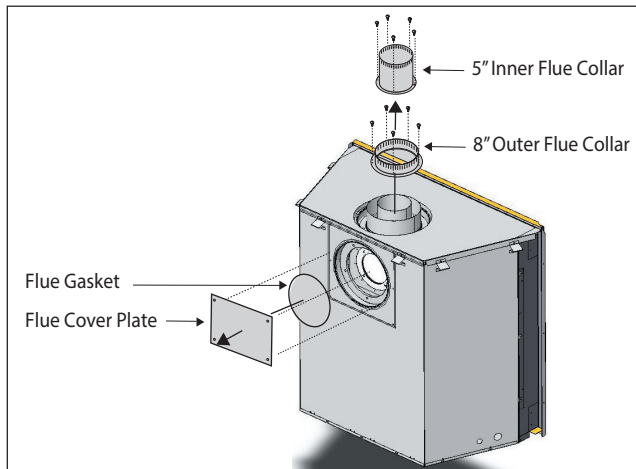

Figure 8. Flue cover and collar removal, Top Vented fireplace.
1. Remove the Rear flue cover and gasket (5" and 8") on the flue outlet, as shown in *Figure 8*.
outlet, as shown in *Figure 8*.